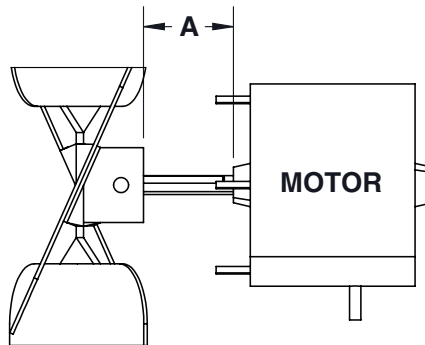

Figure 5. Fan and Motor Spacing (Refer to Table 6)
6. Ensure that fan is in proper position on shaft (see Figure 5) and that setscrew is tightened in accordance with torque listed in Table 6.
*See Figure 5.